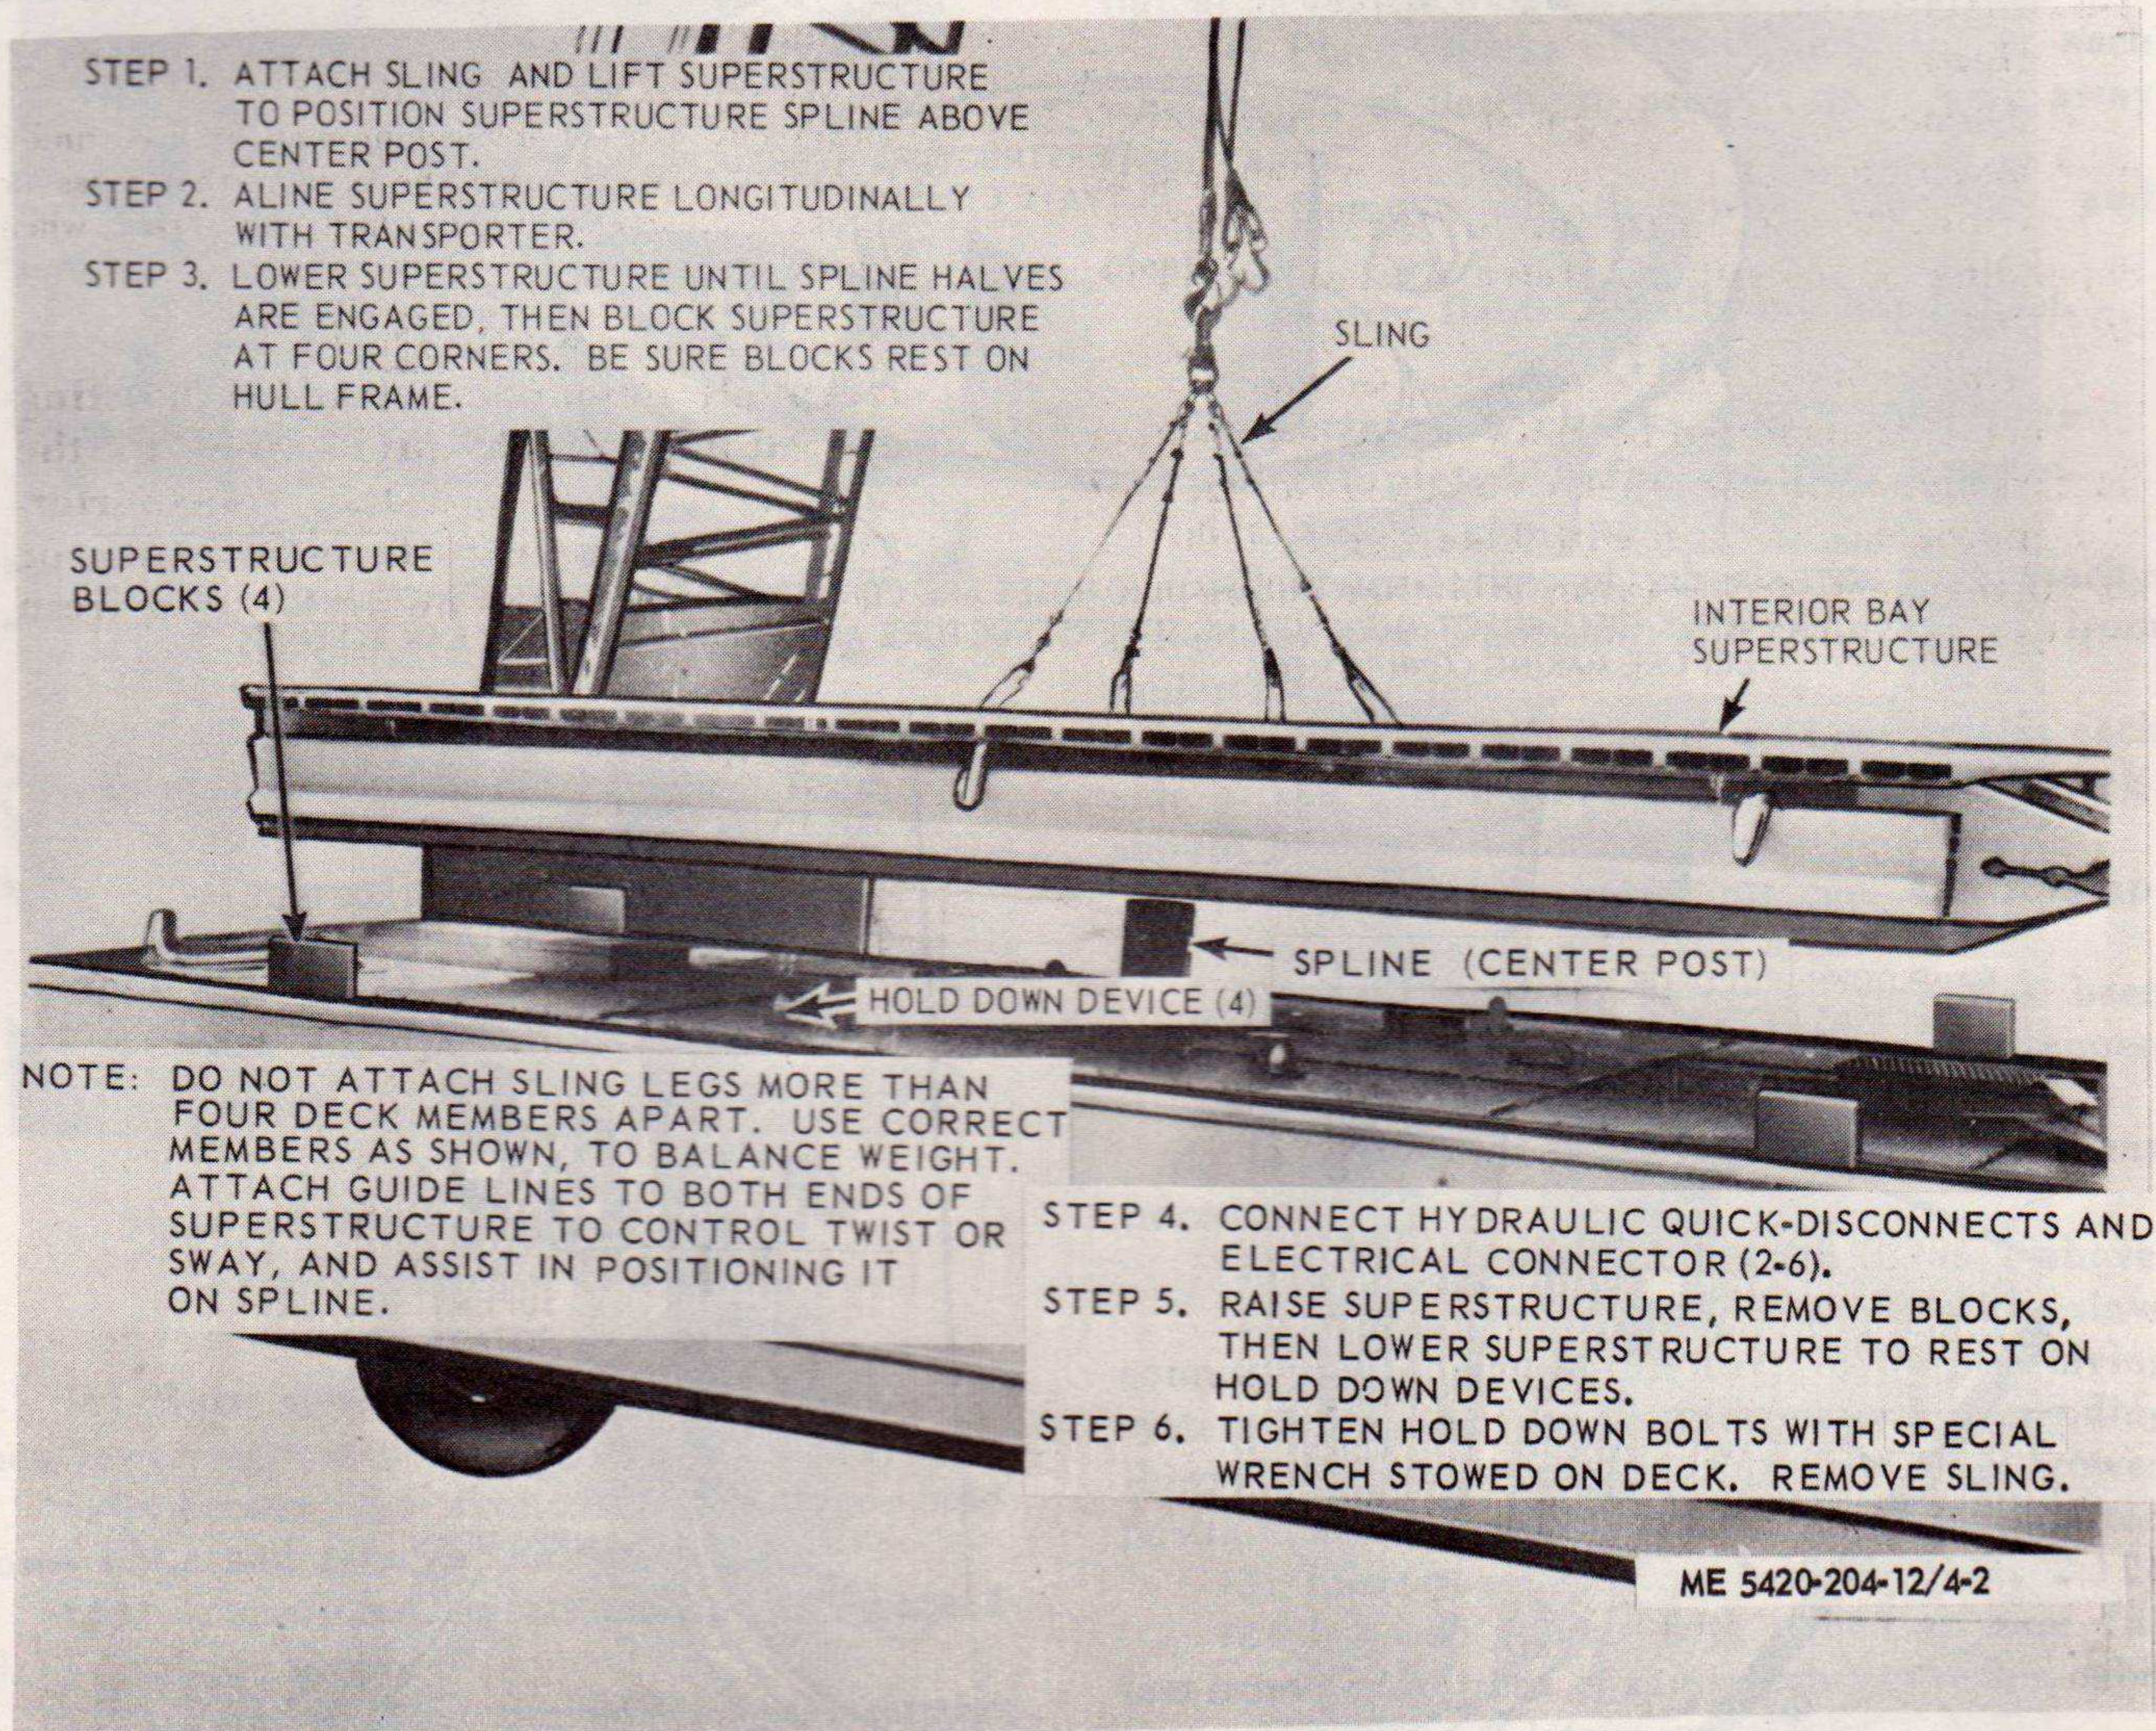

Figure 4-2. Installing superstructure on transporter.
(5) If superstructure has been removed from transporter for separate shipment, refer to TM 5-5420-205-15 for method of unloading or unpacking the superstructure.
(6) Position hoisting, vehicle at superstructure (fig. 4-2) in a manner similar to (2) above. Be sure sling is correctly attached according to type superstructure being installed.
(7) Position blocks at four safe blocking points as illustrated on figure 4-2 prior to installation of interior or end bay superstructure. Place a crew member beside the transporter hull where he can see both mating spline of superstructure and post of transporter. This man will
(5) Secure loose ends of hydraulic and electrical connectors to superstructure girder member to prevent damage to connectors should weight of superstructure rest on them.
(6) Lift interior bay superstructure off transporter (fig. 4-2).
(7) Orient superstructure spline (center post) to stowed position (hydraulic rotation cylinder retracted).
(8) Lift end bay superstructure (fig. 4-2).
(9) Position end bay superstructure on transporter center post and rest it on blocks placed on transporter during removal of interior bay. Place a crew member beside the transporter hull where he can see the transporter center post and the superstructure splines. He will control lowering of superstructure by signals to the hoist operator and men in control of guide lines.
(10) Reconnect all hydraulic quick disconnects and the electrical connector. Install superstructure I-beam end of rotate cylinder on right I-beam hinge point for a right hand unit, or on left I-beam hinge point for a left hand unit.
(11) Raise superstructure, remove blocking, then lower superstructure to its stowed position. Secure the four hold-down bolts.